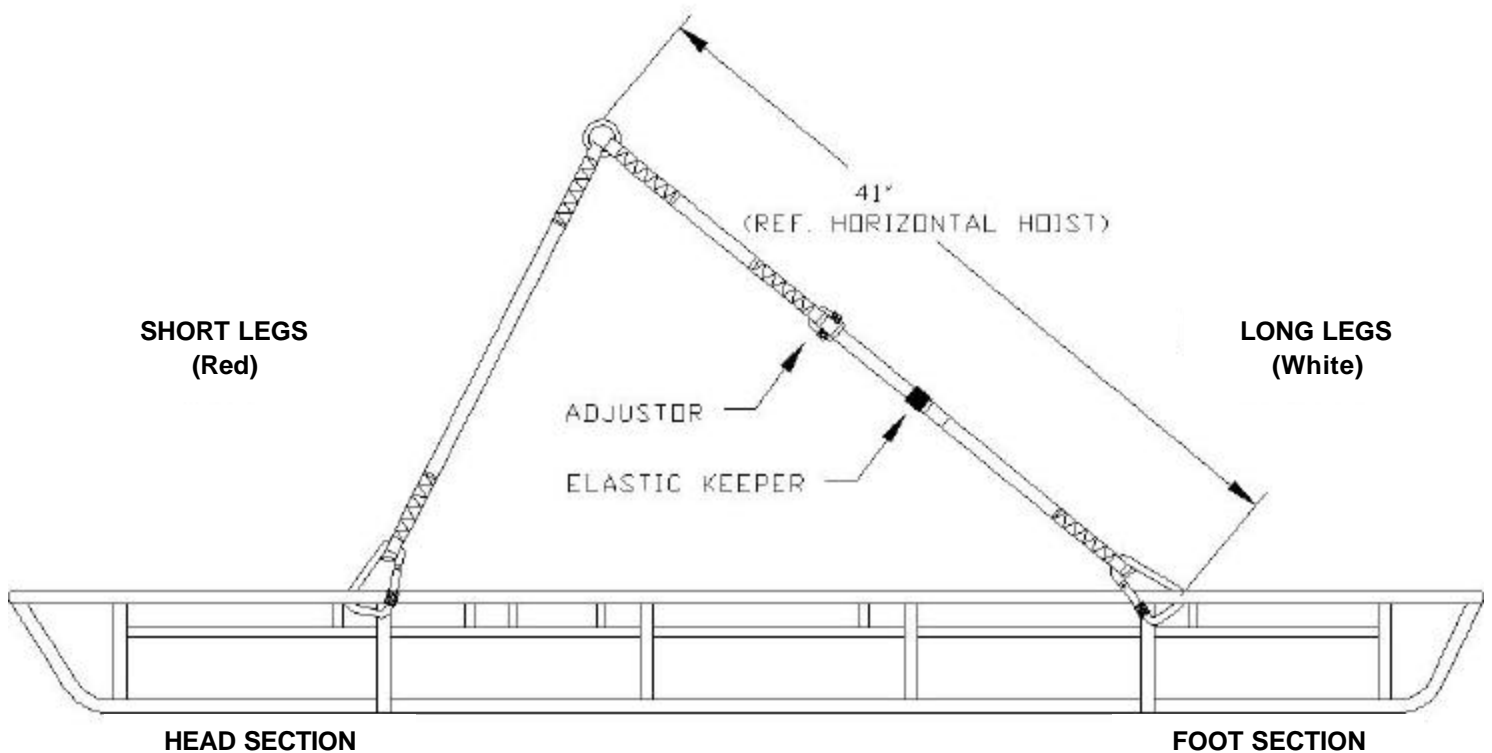

FIGURE 1 – Sling Attachment
Short legs of each sling half (red labeled snap hooks) must be attached at litter head section attachment points; the long legs of each sling half (white labeled snap hooks) must be attached at foot section attachment points. See Figure 1.
Please read all instructions and review Figure 1 prior to assembly.
1. Lay sling halves in litter bed with red labeled snap hooks toward head section and white-labeled hooks toward foot section. See figure 1.
- a. **NOTE:** Foot section sling length may be adjusted for desired litter orientation during hoist. A length of 41 inches (measured from top of lifting ring to litter attachment point) will result in an approximate horizontal litter orientation during hoist with most loads. Refer to Figure 1. Use elastic keeper to secure loose end of foot section sling strap.